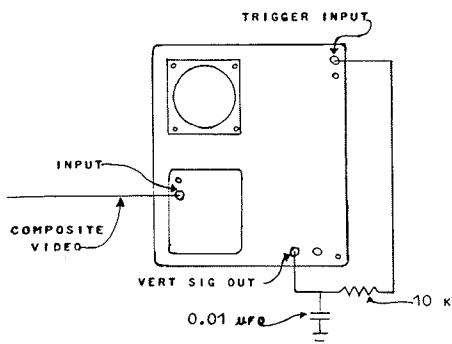

FIG. 1
- Step 2. Patch the VERT SIG OUT to the TRIGGER INPUT via the integrator circuit. See fig. 1.